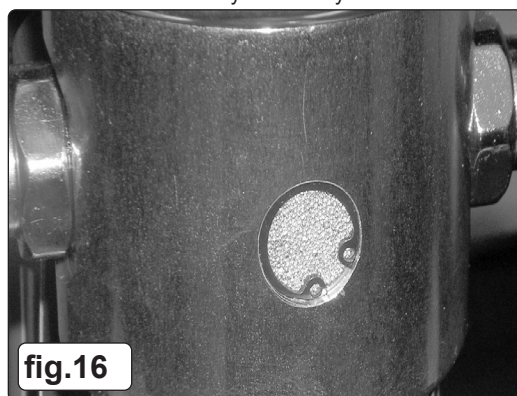

fig.16
6.6. To change the silencer, remove the circlip (fig.16) and remove the old silencer, place a new silencer into the recess and refit the circlip.